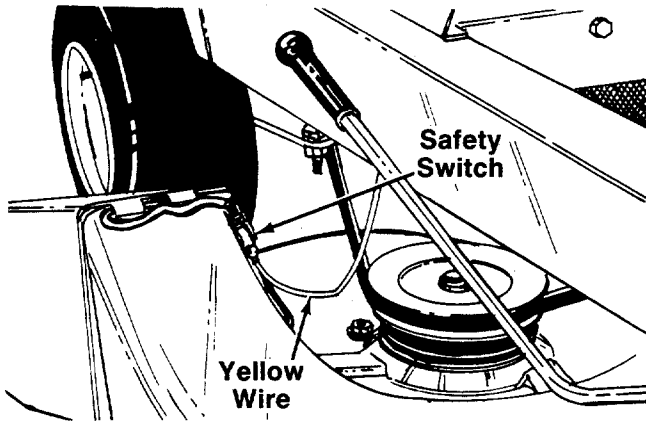

FIGURE 4.
6. Unplug the yellow wire from the chute safety switch. See figure 4.